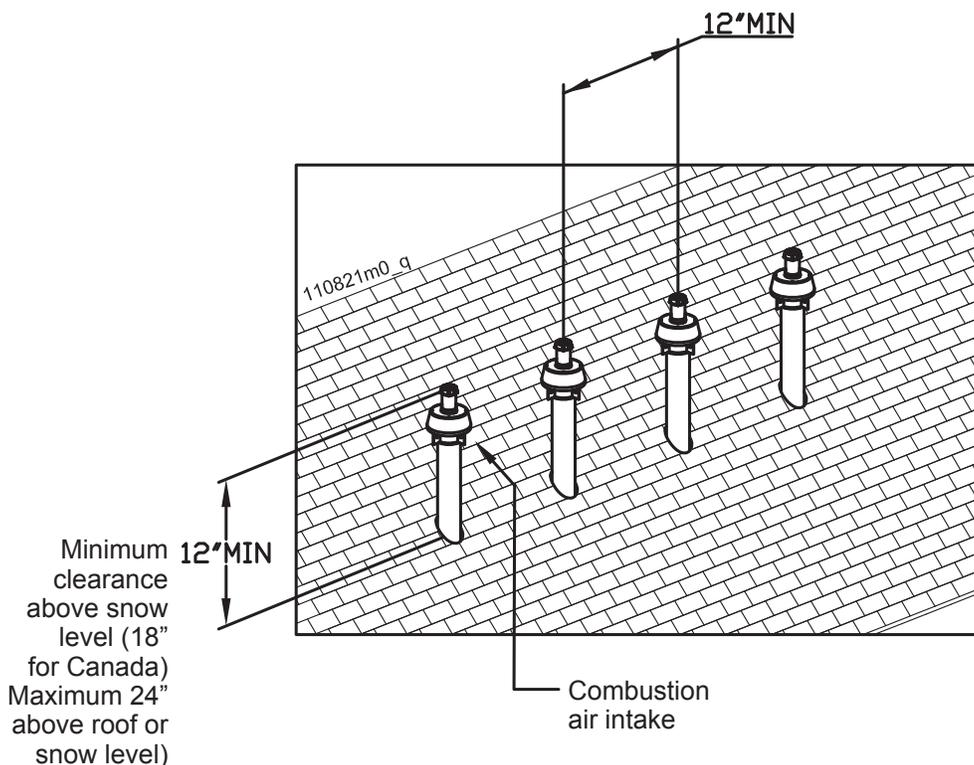

Figure 10-27 Concentric multiple boilers vertical terminations
When two (2) or more direct vent appliances are vented near each other, each appliance must be individually vented (see Figure 10-27).
When two or more direct vent appliances are vented near each other, two vent terminations may be installed as shown in Figure 10-27. It is important that vent terminations be made as shown to avoid recirculation of flue gases.